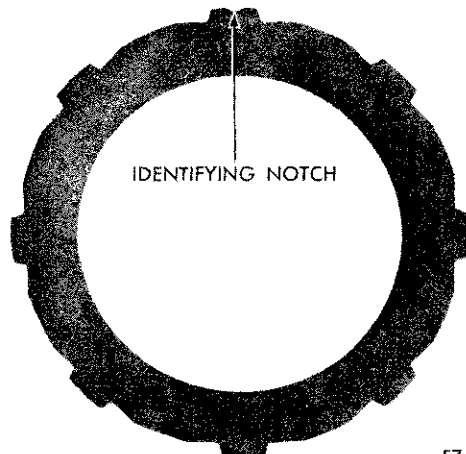
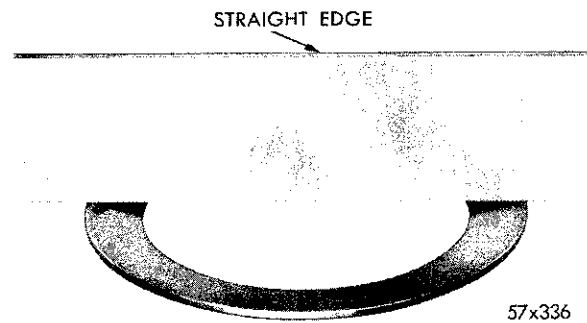

Fig. 115—Identification of Front Clutch Piston Spring Retaining Plate
Fig. 116—Identification of Front Clutch Cushion Spring
Install the front clutch hub, cushion spring retaining plate (T) (Fig. 115), and cushion spring (S) (concave side, as shown in Figure 116, toward retaining plate) (K). The front clutch cushion spring (S) must be preloaded to 500 pounds for assembly. Place front clutch and the input shaft assembly in an arbor press with the rear of the piston retainer resting on a suitable support. Press the input shaft into the clutch retainer until snap ring (B) can be installed. **If arbor press is not available use**